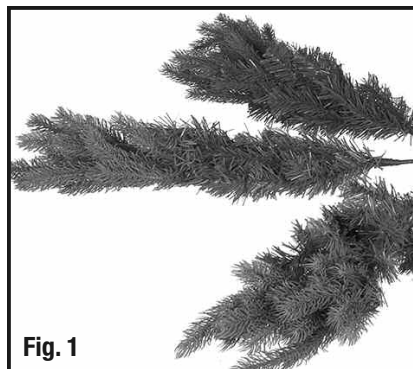

Fig. 1
1. Trees are shipped from the factory with the tips of each branch compressed to the center (Figure 1). Branches should be shaped one row at a time. Make sure that all of the branches of the row to be shaped have been moved to their lowered position.